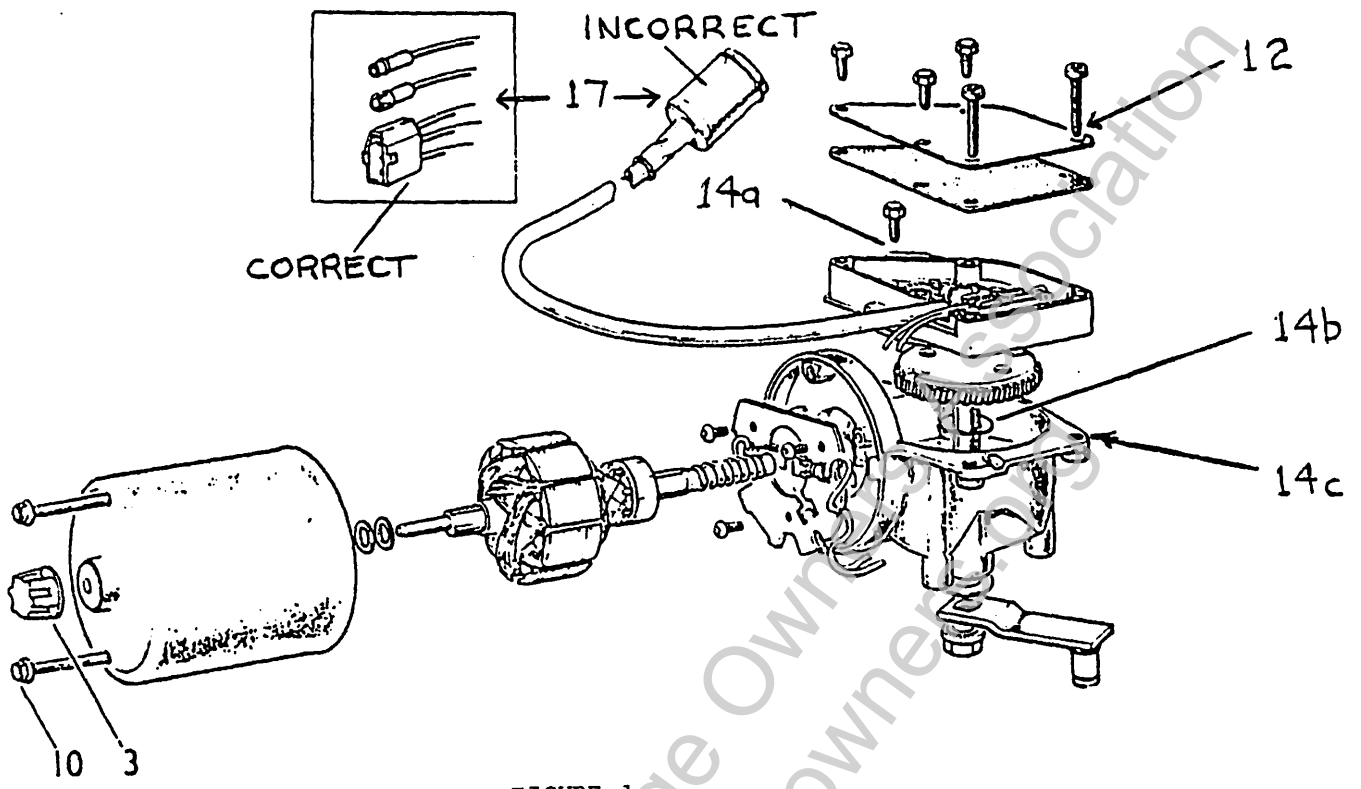

FIGURE 1.
3. Should either motor fail to operate, ensure that battery is disconnected, then raise the affected lamp by operating the manual override i.e., rotate knob on the end of the actuator motor. (Figure 1 (3)).
10. Remove and examine one motor lower through bolt (9/32" nut runner) Figure 1 (10). If the bolt shank or thread show any sign of corrosion or motor overheating, (signs of lacquer) replace the complete actuator motor (kit number PKC 1287 K). If it is satisfactory, re-fit bolt to 20 lb ins. torque.
12. Remove the 5 cover fixing screws, (5/16" nut runner), top cover, liner and foam gasket. (Retain top cover and screws for reassembly). (Figure 1 (12)).
- (a) switch assembly. Remove the 6th screw and lift the switch assembly from the motor gearbox. (Figure 1 (14a)).